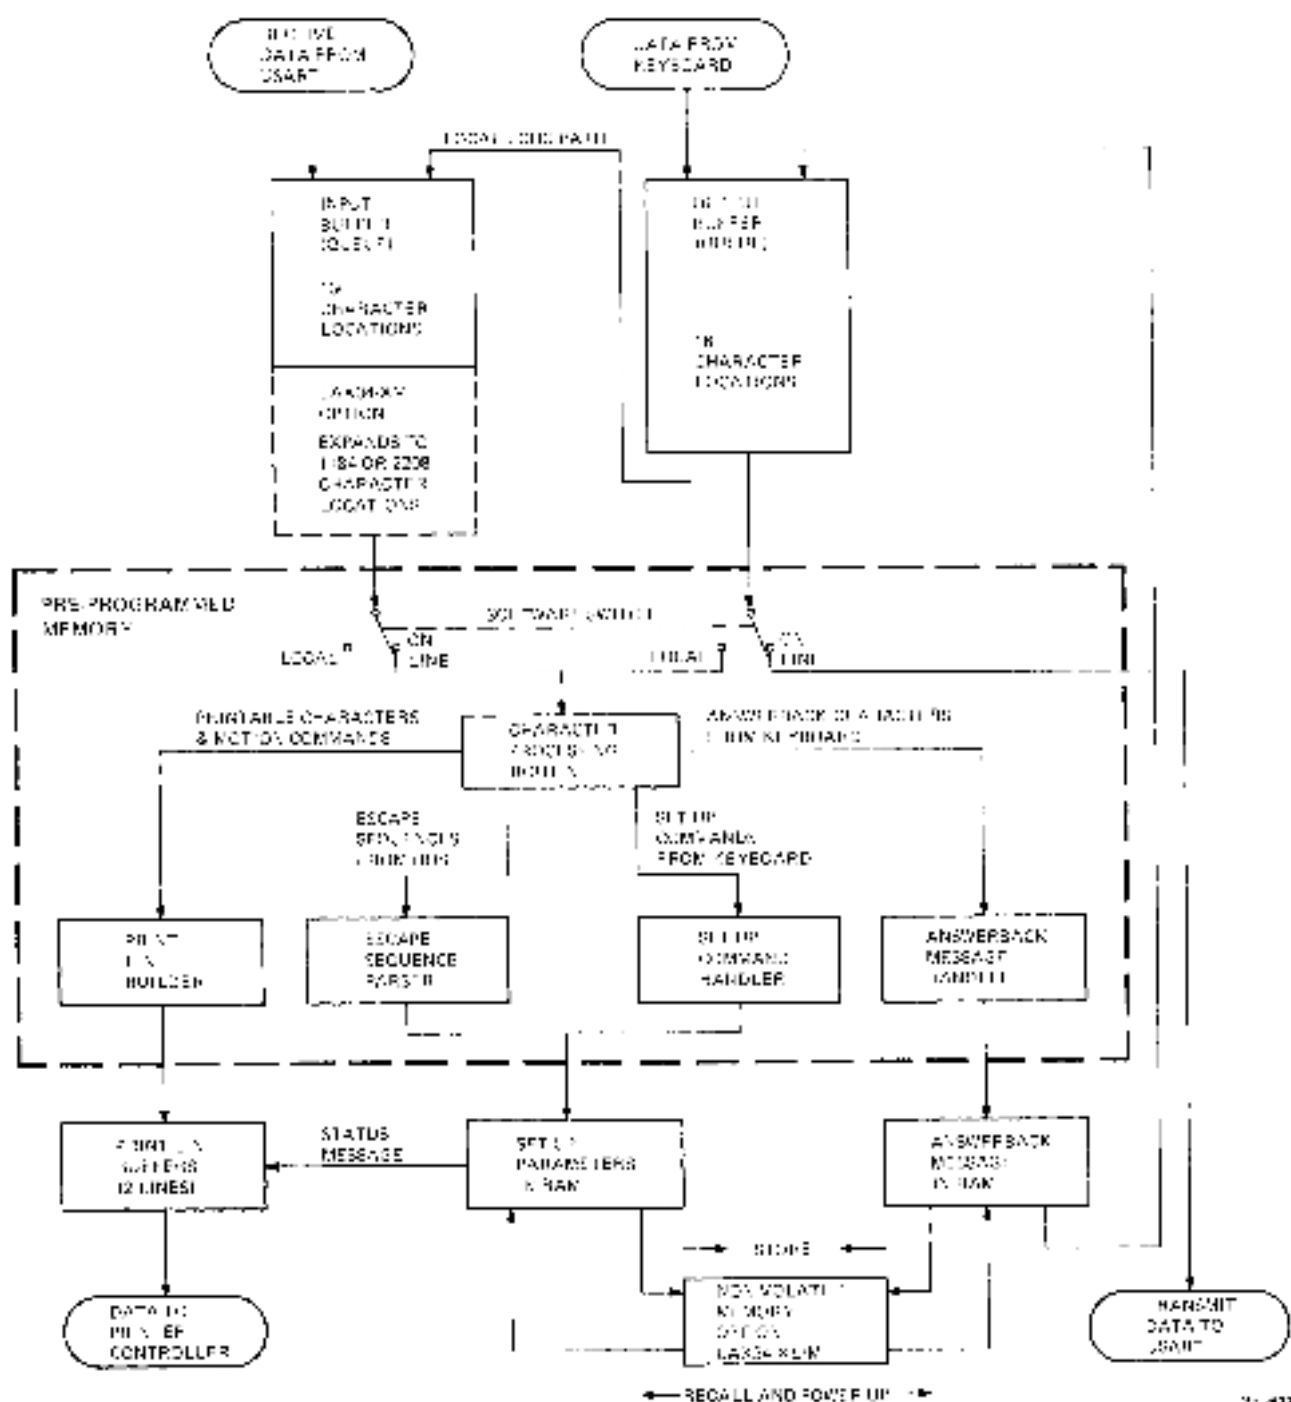

Figure 5-8 Internal Data Management
5.4.2.5 Internal Data Manipulation – Figure 5-8 shows graphically how input/output data is managed by the microprocessor. Data moved to or from the USART or keyboard passes through one or both of two areas in RAM memory called queues. There is an input queue and an output queue. Both queues are in effect first-in/first-out (FIFO) buffers. The input queue has a variable length (determined by SET-UP or escape commands) and may be 100, 1184, or 2208 characters in length. The 1184 and 2208 character queue (buffer) is available only when the LAX34-XM option is installed. The output queue has a fixed length of 16 characters.